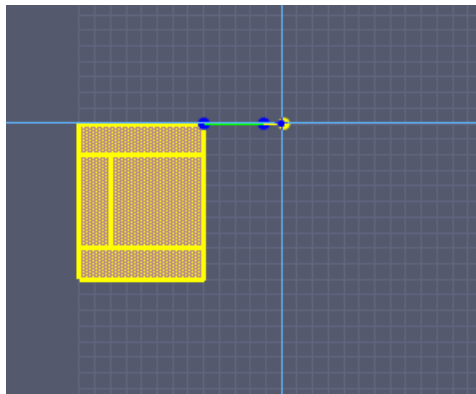

Figure 10.2. Rotate handles for selected objects
- By default, handles will be positioned at the center of the selection. A click anywhere on the grid will pin these handles to a new location, such as a corner of the object Figure 10.2. The location of the handles defines the center of rotation.